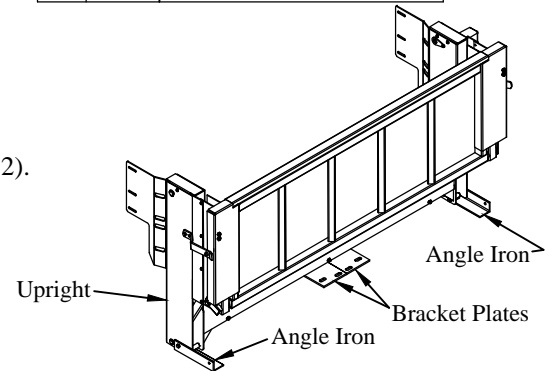

Figure 2: Complete liftgate (**G2** shown).
4. Unbolt the two (2) angle irons attached to the liftgate uprights- **G2** only (Figure 2).
6. Remove the two (2) bracket plates attached to the liftgate- **G2** only (Figure 2).